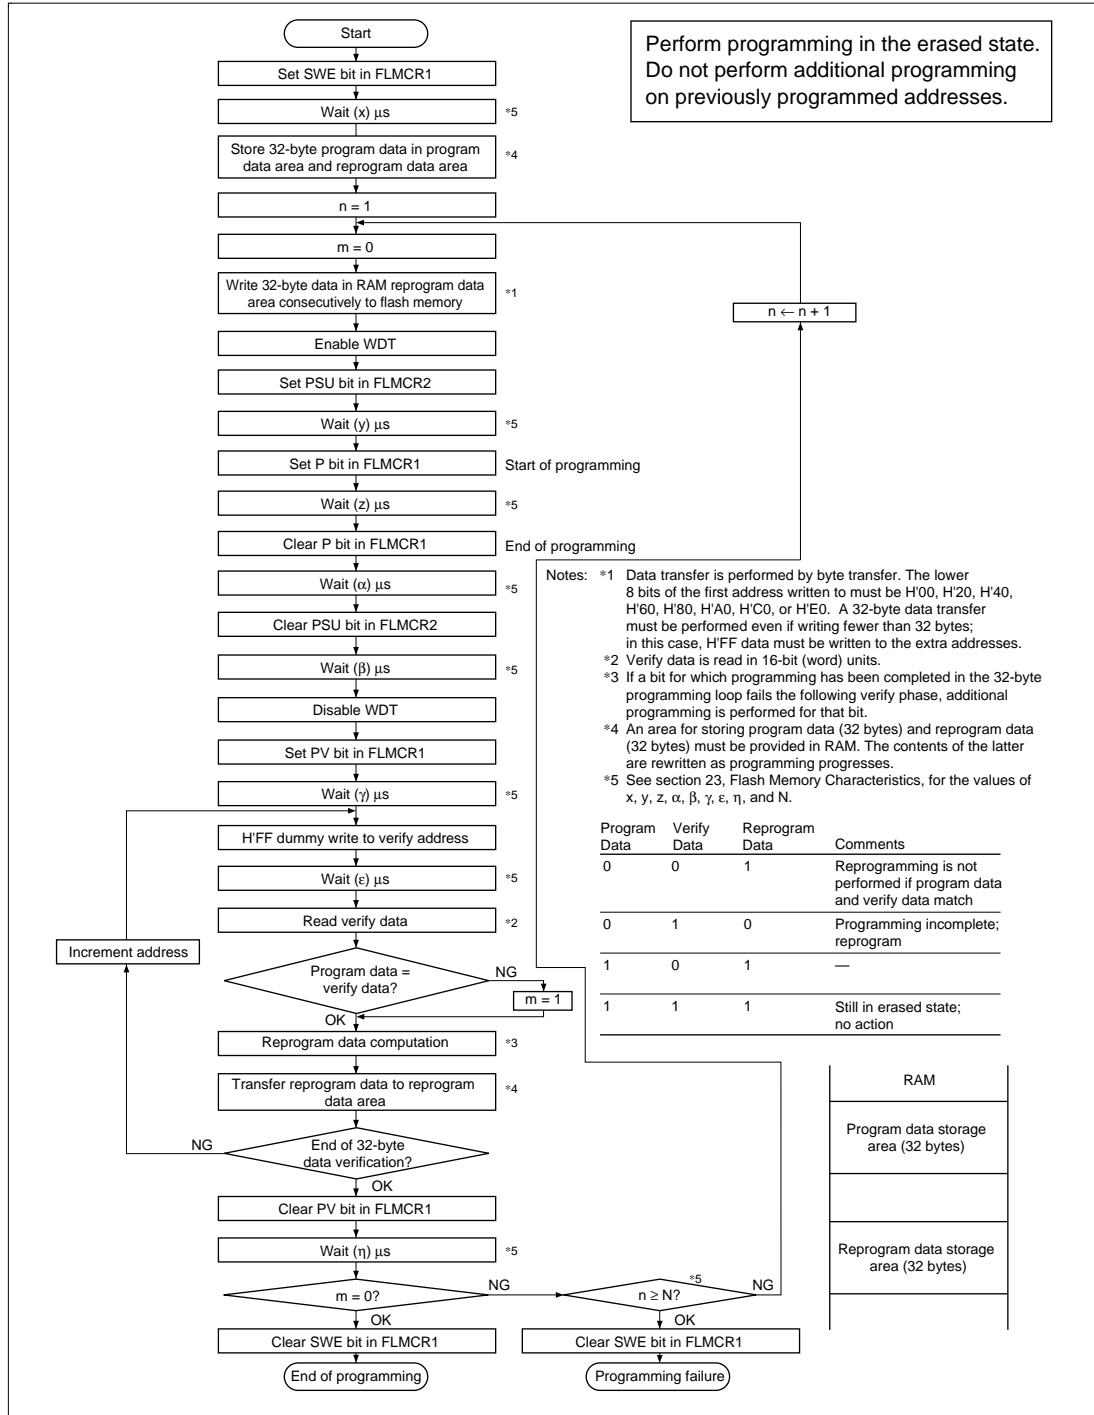

Figure 21.12 Program/Program-Verify Flowchart
Follow the procedure shown in the program/program-verify flowchart in figure 21.12 to write data or programs to flash memory. Performing program operations according to this flowchart will enable data or programs to be written to flash memory without subjecting the device to voltage stress or sacrificing program data reliability. Programming should be carried out 32 bytes at a time.
After the elapse of a given programming time, the programming mode is exited (the P bit in FLMCR1 is cleared, then the PSU bit in FLMCR2 is cleared at least (α) μ s later). The watchdog timer is cleared after the elapse of (β) μ s or more, and the operating mode is switched to program-verify mode by setting the PV bit in FLMCR1. Before reading in program-verify mode, a dummy write of H'FF data should be made to the addresses to be read. The dummy write should be executed after the elapse of (γ) μ s or more. When the flash memory is read in this state (verify data is read in 16-bit units), the data at the latched address is read. Wait at least (ϵ) μ s after the dummy write before performing this read operation. Next, the originally written data is compared with the verify data, and a bit generation operation is performed for reprogram data (see figure 21.12) and transferred to the reprogram data area. After 32 bytes of data have been verified, exit program-verify mode, wait for at least (η) μ s, then clear the SWE bit in FLMCR1. If reprogramming is necessary, set program mode again, and repeat the program/program-verify sequence as before. However, ensure that the program/program-verify sequence is not repeated more than (N) times on the same bits.